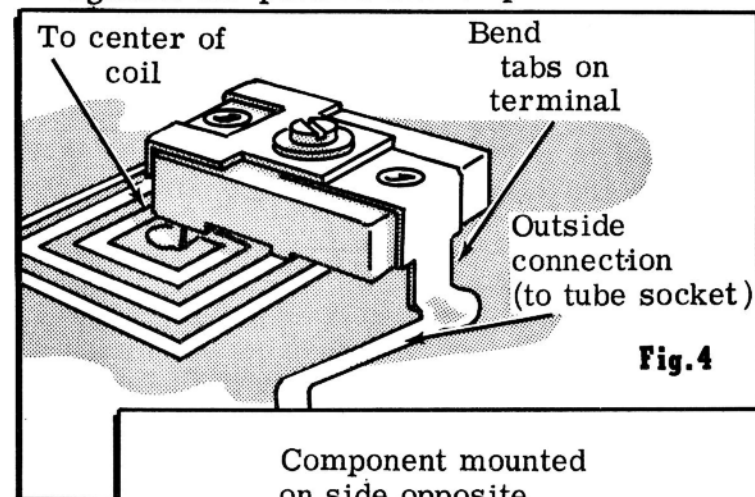

Fig. 4
5. Mount the variable tuning capacitor to the copper pattern side of the chassis, following the detailed instructions as shown in Figure 4. Solder directly to the eyelets, making sure the capacitor is properly placed, otherwise the adjusting screw will not line up with the hole provided on the front of the case.